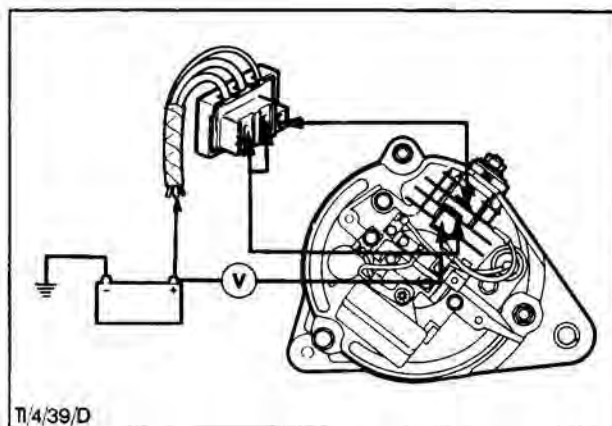

Fig. 35. Checking charging circuit volt drop 'positive side'
10. Connect 'positive side' volt drop test circuit, Fig. 35.